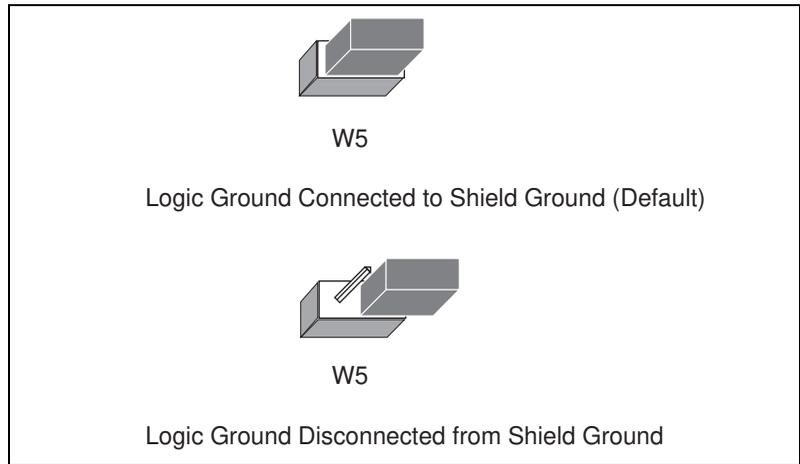

Figure 2-8. Ground Configuration Jumper Settings
If you are installing the PC/104-GPIB in an 8-bit stack, you must disable DMA, because DMA channels 5, 6, and 7 are 16-bit DMA channels. Refer to Figure 2-8, which shows how to set the DMA jumpers for no DMA.
2. Remove the jumper and place it across only one of the jumper pins, as shown in Figure 2-8.